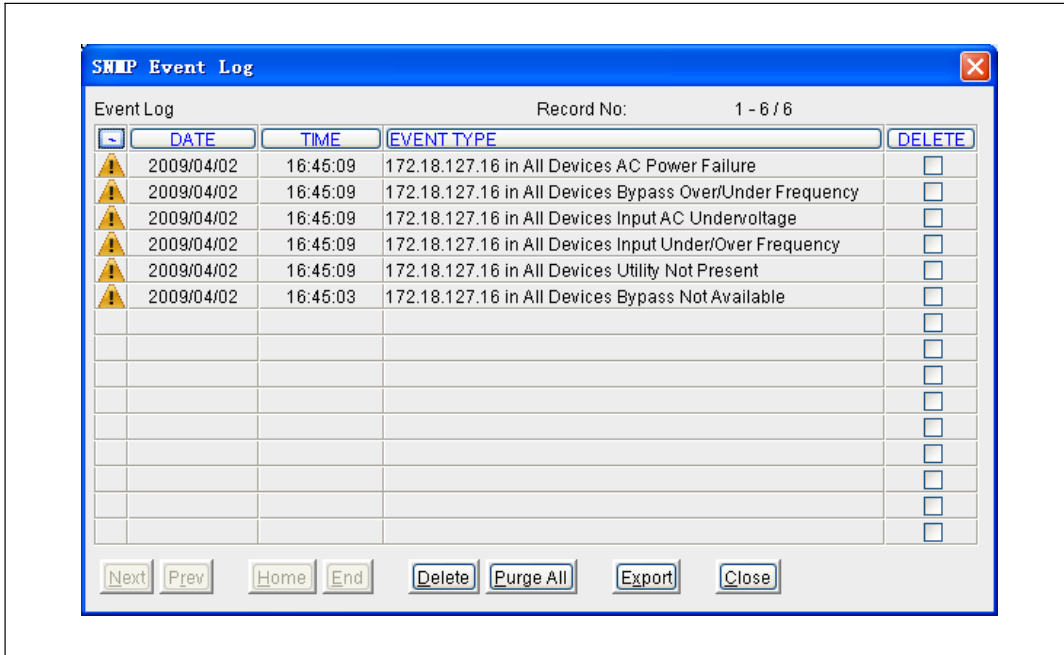

Figure 101. Event Log
- To view the event records for any Dell UPS monitored by a Network Management Card, select the UPS under the SNMP node in the tree view and select **SNMP Event Log** from the **SNMP** menu. The Event Log for the selected UPS opens (see Figure 101).